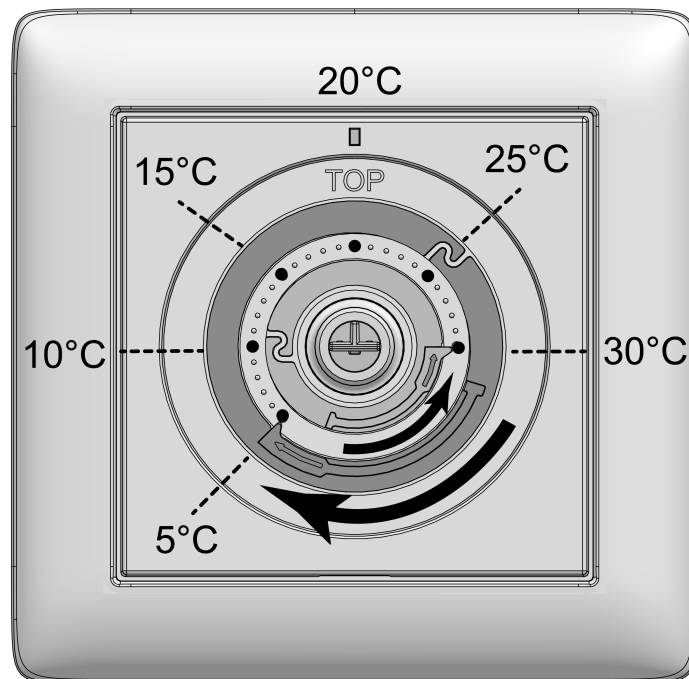

Figure 3: Adjustment rings for temperature limit
- Pull the control knob (5) off the central plate (4) so that the adjustment rings (7) are visible (see figure 3). The temperature values shown in the picture are for orientation purposes.